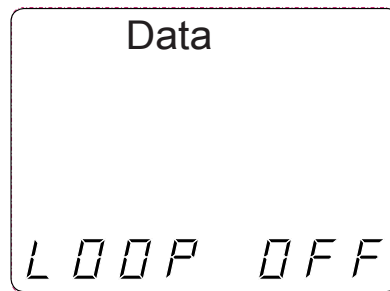

Figure 9. Loop Off in Data Mode
- button until “LOOP OFF” appears (see Figure 9).